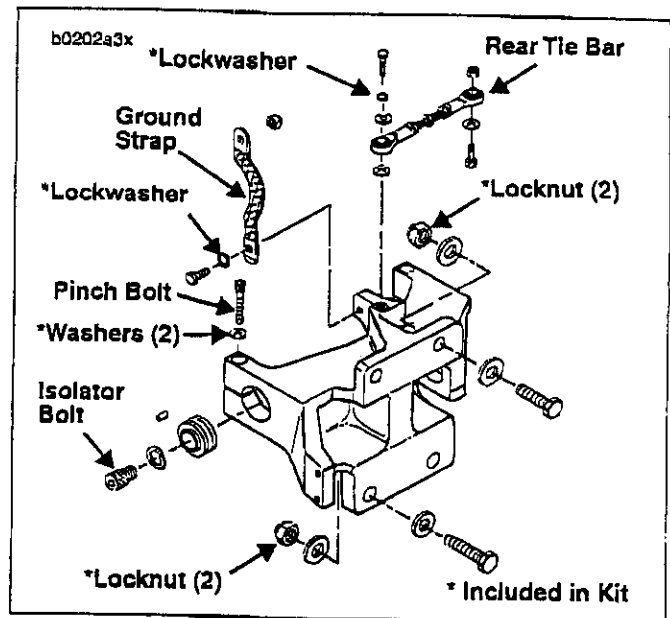

Figure 3. Mount Block
15. See Figure 3. Remove bolt and lockwasher and disconnect ground strap from swingarm mount. Discard lockwasher.
17. See Figure 3. Remove rear tie bar bolt, lockwasher and washers from mount block. Discard lockwasher.
18. See Figure 3. Remove right side isolator bolt and washer from swingarm bearing adjustment bolt.